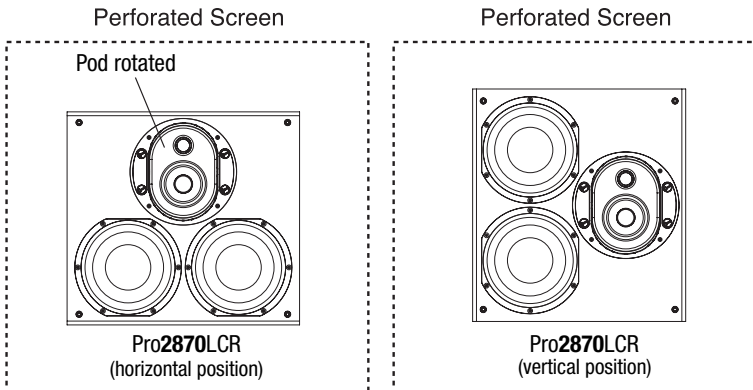

Figure 3. Recommended loudspeaker center-channel placement behind a perforated projection screen.
- *The Pro LCR models feature a Midrange/Tweeter pod that can be rotated to accommodate horizontal installations. If you mount one of these models horizontally, please remove the screws that hold this pod in place, rotate the pod ninety degrees so that the tweeter is above the midrange and reinstall the screws to reattach the pod to the loudspeaker as shown in **Figure 3**.*
- For installations where a perforated projection screen will be used, place the loudspeaker, either horizontally or vertically, behind the screen at ear level, as shown in **Figure 3**.